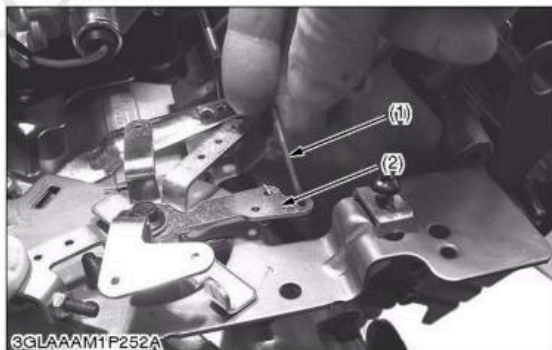

Figure 10-74. Connecting Choke Linkage.
1. Connect the choke linkage to the choke actuator lever on the main control bracket assembly. See Figure 10-74.